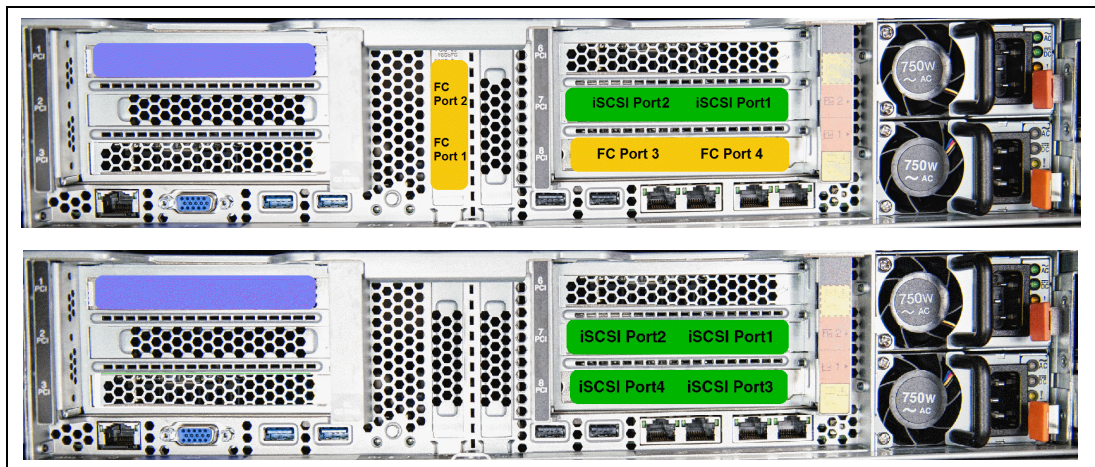

Figure 2-1 Grid controller configuration options
Each grid controller can be equipped with four FC ports and two iSCSI ports if you order the intermix protocol option, or each grid controller can be ordered with four iSCSI ports. The possible configurations are shown in Figure 2-1.
- ▶ iSCSI hosts connect to at least one port on each active grid controller. The preferred practice is to use the same methodology as the FC connectivity recommendations when you connect through iSCSI with a FlashSystem A9000 or A9000R that is physically configured with the “all iSCSI adapters” option. That is, use iSCSI ports 1 and 3 for host connectivity and iSCSI ports 2 and 4 for replication. The iSCSI port numbering is shown in Figure 2-1 on page 42.